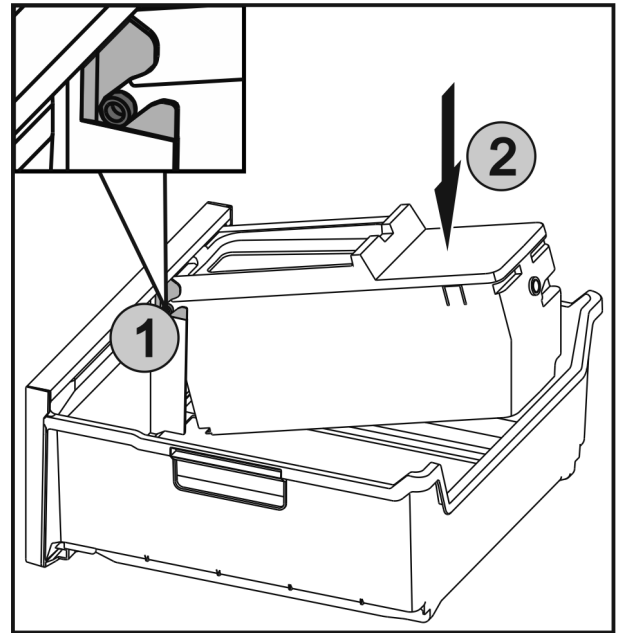

Fig. 60
- Push the axles Fig. 60 (1) on the EasyTwist-Ice into the guides and push the rear side Fig. 60 (2) until the lugs engage.